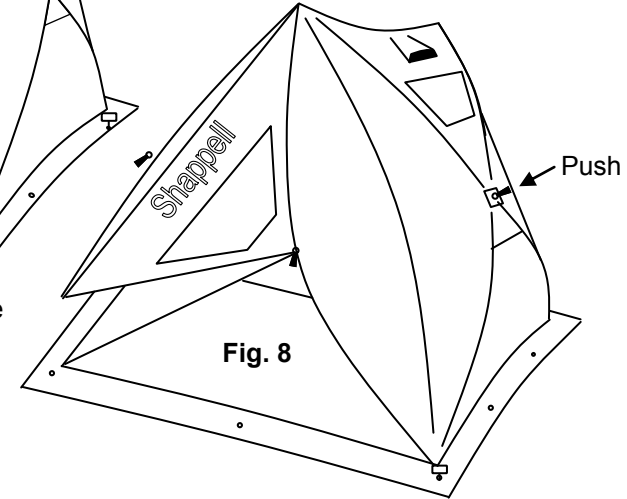

Fig. 8
2) Push remaining side hubs in. (Fig. 8)